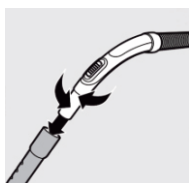

Figure 3
1. To attach the tube to the hose handle, insert the narrow section into the wider section and turn it slightly (Figure 3).